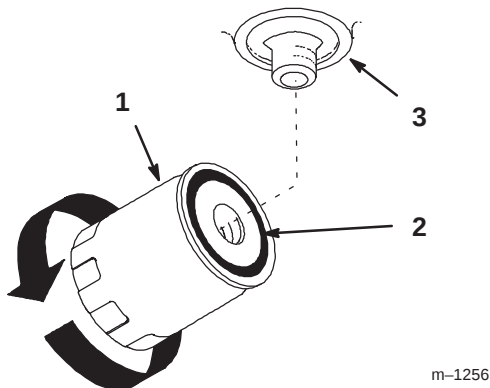

Figure 55
4. Apply a thin coat hydro fluid to the rubber gasket on the replacement filter (Fig. 55).
7. When fluid overflows filter turn the oil filter clockwise until the rubber gasket contacts the filter adapter, then tighten the filter an additional 1/2 turn (Fig. 55).